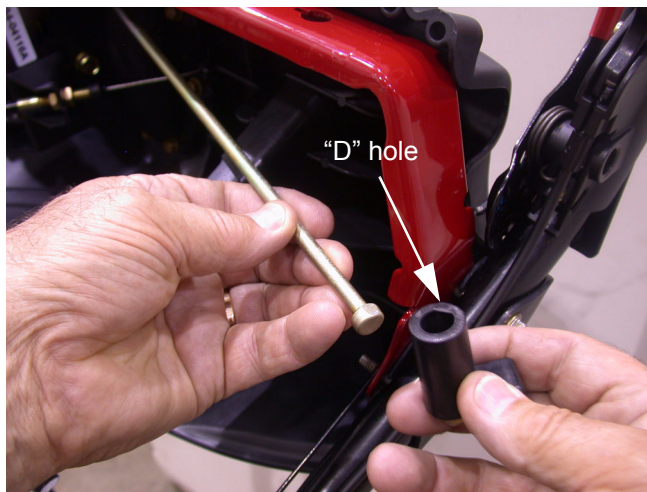

Figure 15.6
- 15.6. Detach the pivot rod from the clutch lock cam. See Figure 15.6.